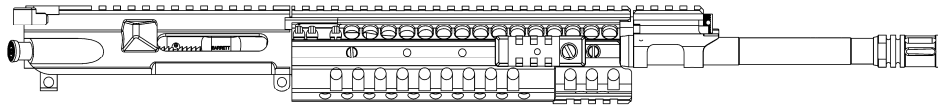

Figure 14.
1. The upper assembly (Figure 14).